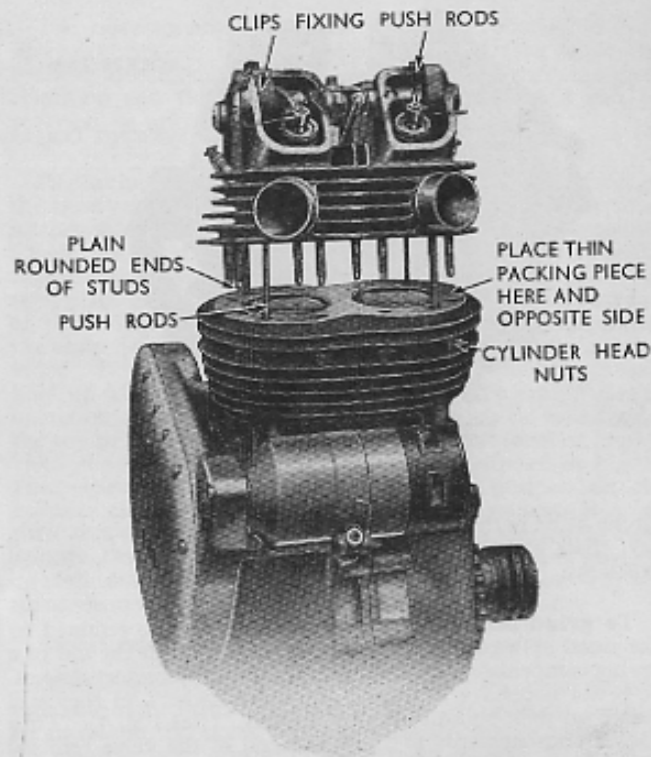

Fig. 6
2. Unscrew the eight cylinder head securing nuts, situated between the second and third fins of the cylinder block, about $\frac{1}{2}$ in. or four complete turns. The cylinder head can then be raised off the cylinder block enough to pass two thin spanners or other packing between the two. (One piece on each side of the cylinder.) Do not force the packing in or the joint washer will be damaged. (See Fig. 6).
Replacing the cylinder head. See that the joint faces of the head and cylinder block are perfectly clean and the joint washer in good condition. Do not use jointing compound. Check the eight cylinder head nuts on the studs to make sure the threads have not been damaged during handling, then place each of the nuts between the second and third fins of the cylinder block and accurately locate them opposite the eight holes in the block by means of the tommy bar provided. Replace the push rods into the cylinder head and hold up while the head is being replaced. To enable ease of operation, the push rods and rocker levers can be held against the top of the rocker housing by using some form of improvised clip, and such an arrangement is illustrated in Fig. 6. Place the spanners or packing pieces in position on the cylinder block to support the head while the nuts are engaged with the threads on the studs. Note that the studs have spherical ends to "pick up" the nuts as the head is lowered on to the cylinder block. Screw the nuts three or four complete turns, remove the packing and finally tighten all nuts.